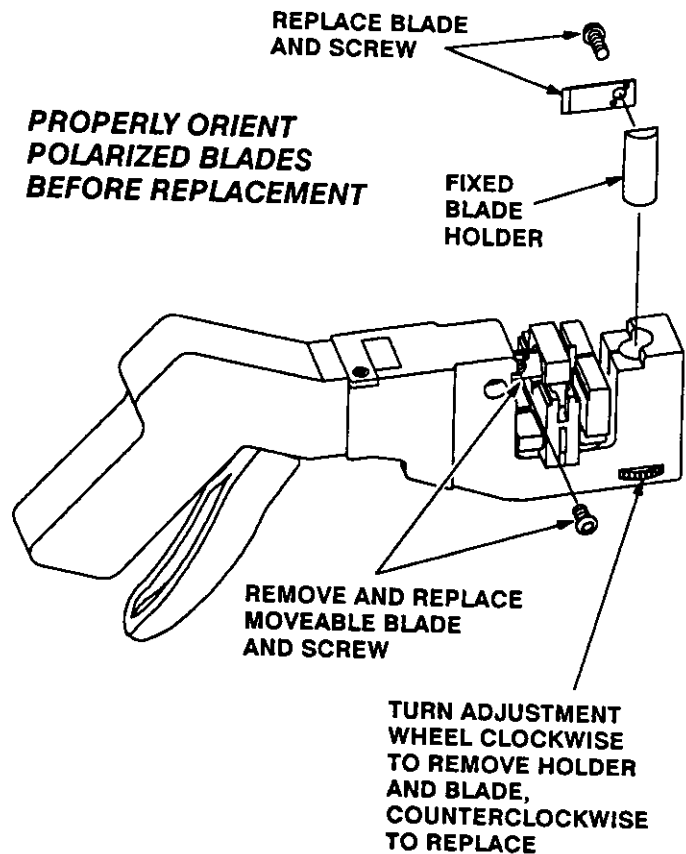

Fig. 7
5. MAINTAINING THE TOOL (Figure 7)
3. Handle must be assembled to head to remove the moveable blade. Press both release buttons and slide guide as far front as possible. Advance ratchet until screw clears head and remove screw (See Figure 7).